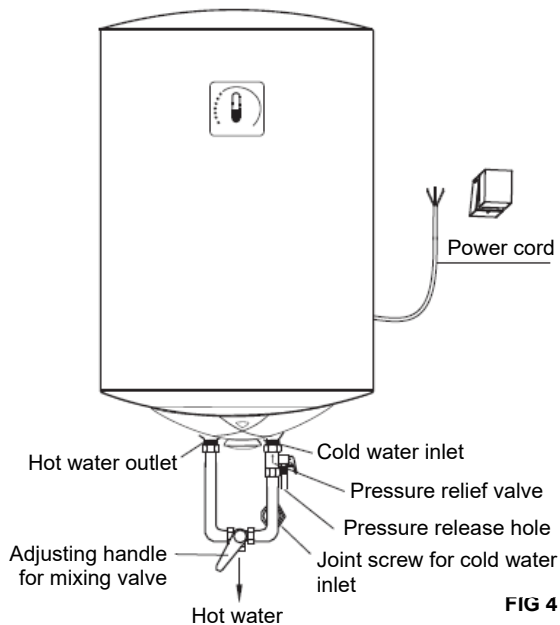

FIG 4
3. In order to avoid leakage when connecting the pipelines, the rubber seal gaskets provided with the heater must be added at the end of the threads to ensure leak proof joints (see Fig.4).